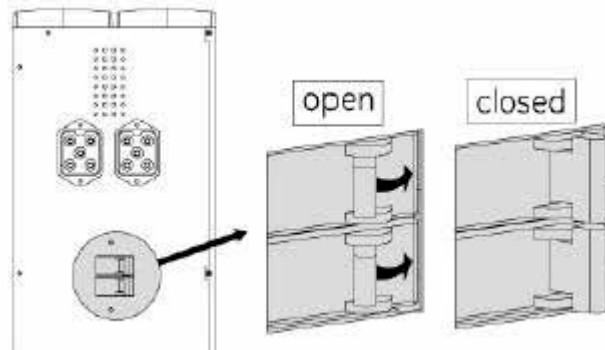

FIG 46 – 10KVA BATTERY PACK BREAKER
2. In case external battery packs are used, switch on the battery pack circuit breaker (FIG 46).